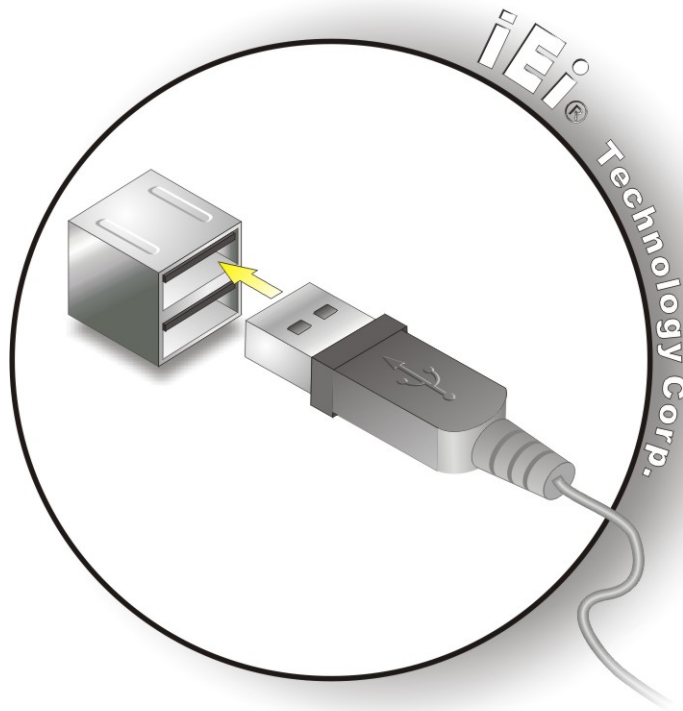

Figure 4-20: USB Connector
Step 2: Insert a USB plug. Insert the USB plug of a device into the USB receptacle on the external peripheral interface. See **Figure 4-20**.